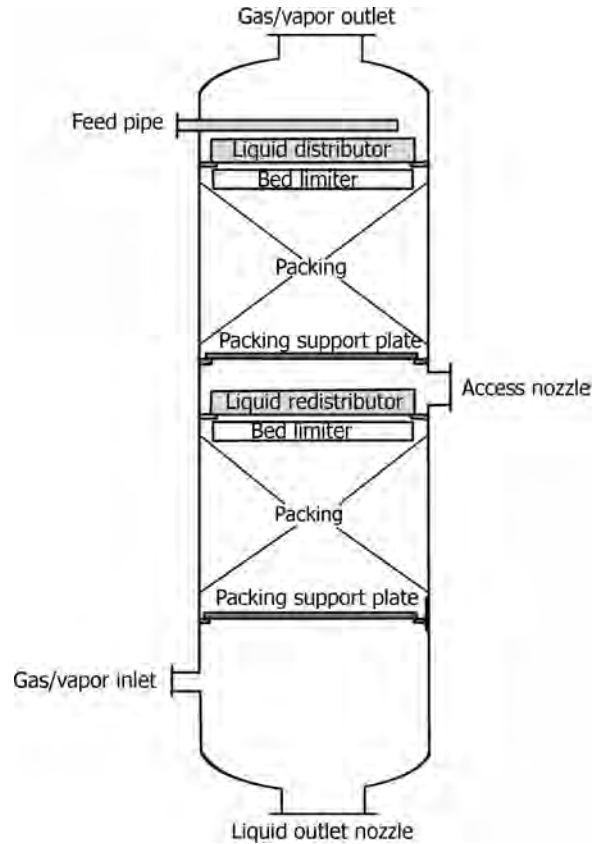

FIGURE 16.15 Packed column.
- Figure 16.15 illustrates a typical packed column.